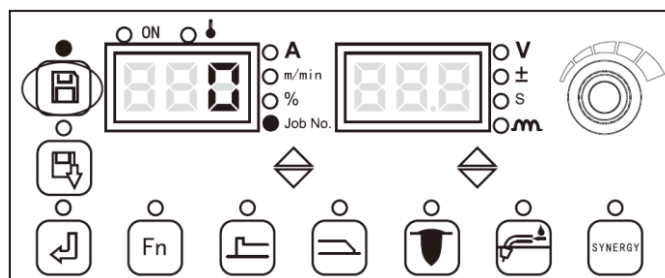

Figure 3-16 Setting screen for Store
- Use the panel knob to select channel number (0~49), and press the **Enter** key for confirmation, as shown in Figure 3-16.
4. Use the panel knob to select the storage JOB number (0 to 49) and press the **Enter** key to confirm, as shown in Figure 3-16.